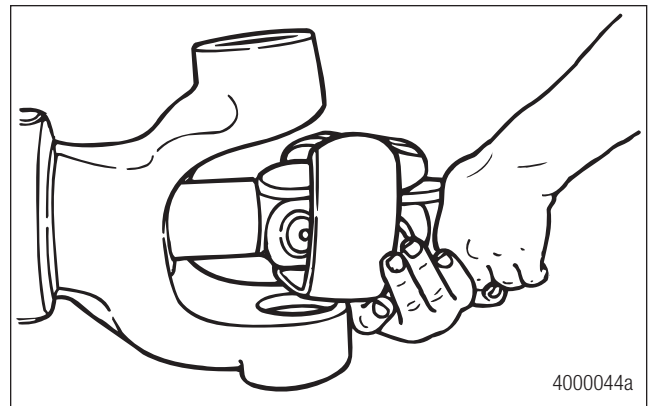

Figure 4.27
1. Remove the axle shaft double-cardan joint assembly from the carrier housing by pulling the assembly STRAIGHT out of the carrier housing. Do not disassemble the universal joints, which will void the Meritor warranty. Figure 4.27.